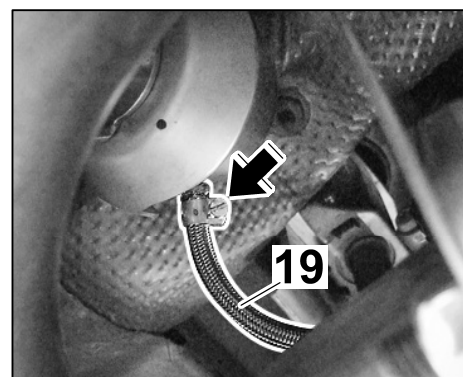

Figure 24
- 7.3.2 Secure the steel flexi-pipe ⇒ *Figure 24* -19- to the vacuum unit with a hose clamp ⇒ *Figure 24* -arrow-.